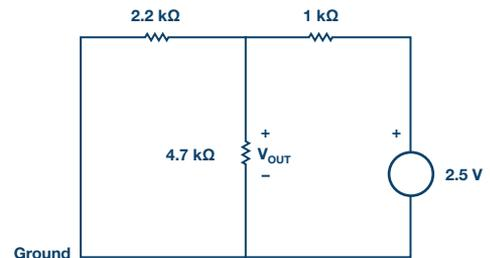

Figure 4. Circuit for response of just one source.
For an independent source acting alone, all other independent voltage sources in the circuit are replaced by short circuits and all other independent current sources are replaced by open circuits, as shown in Figure 4.
- ▶ b) Construct the circuit of Figure 4. Measure and record the voltage across the 4.7 k $\Omega$  resistor.